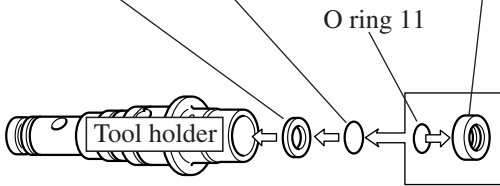

Fig. 24
(2) Insert the parts into the tool holder in the following order as illustrated in Fig. 24.